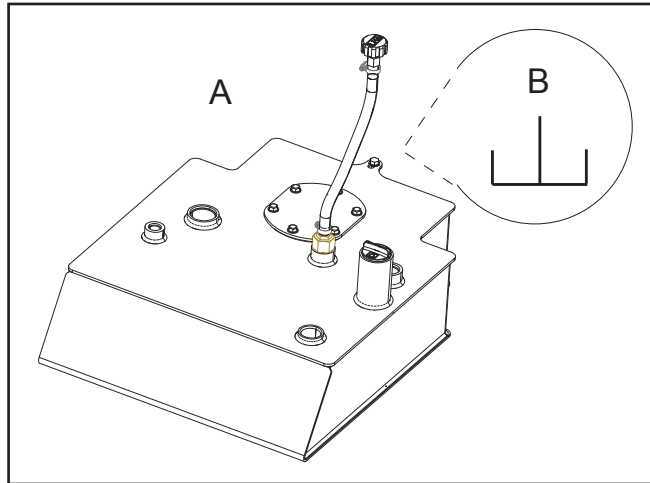

Figure 9
The reservoir (A) (Figure 9) is a chamber to hold the fluid in the hydraulic system. The schematic symbol for a reservoir is shown at (B).